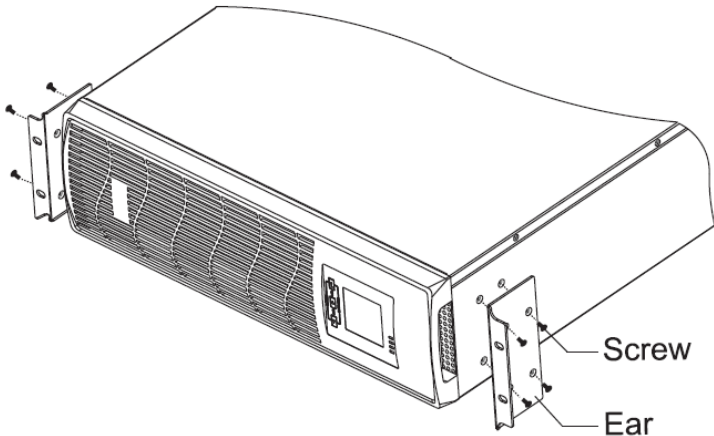

Fig.2-4
1. Take out two brackets and M4 × 10 screws from the accessories, and fix the brackets onto the UPS using the screws through installation hole, as shown in Fig.2-4.